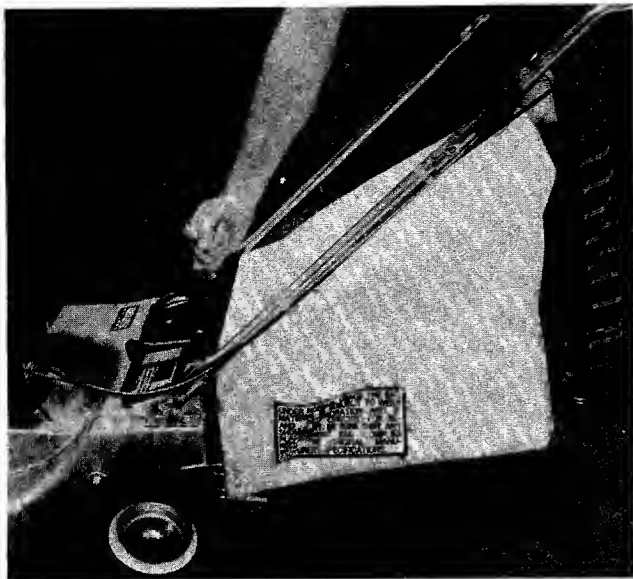

FIGURE 15.
2. Pull cam lever back and down to lock grass catcher on mower. This automatically opens rear discharge doors on mower. See figure 15.